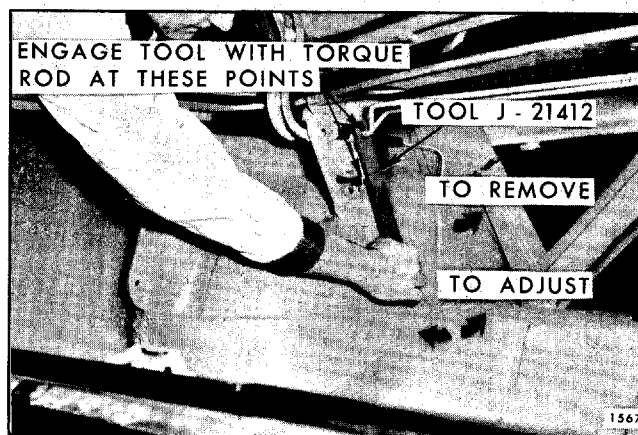

Fig. 7-46-Rear Compartment Torque Rod Adjustment - "X-27, 69" Styles
- a. On "X-27, 69" and "H-27" styles, use tool J-21412-01 or equivalent (Fig. 7-46).
2. To remove torque rods, prop lid in full open position and disengage end of torque rod from adjusting notches on hinge box, as shown in Figures 7-46, 7-52, 7-53 and 7-55. Then allow handle of removal tool to rotate forward to relieve tension on rod. In some cases, it may be